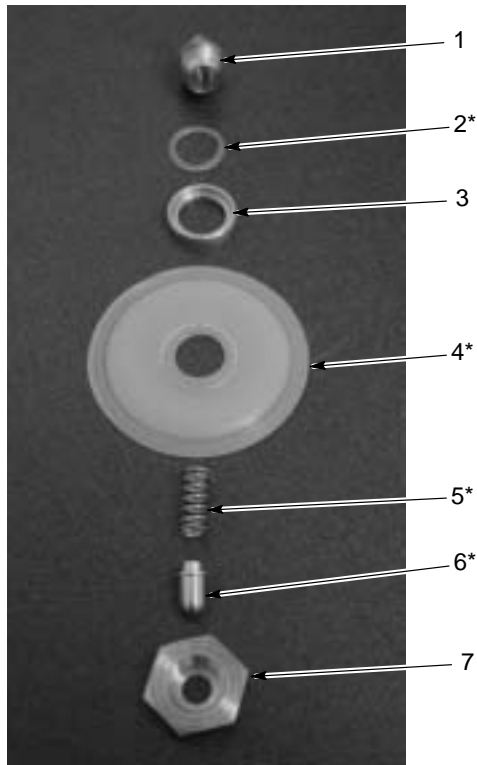

Figure 4 Diaphragm Assembly
3. See Figure 4. Rebuild the diaphragm assembly. Parts marked with an asterisk (*) are included in the service kit.